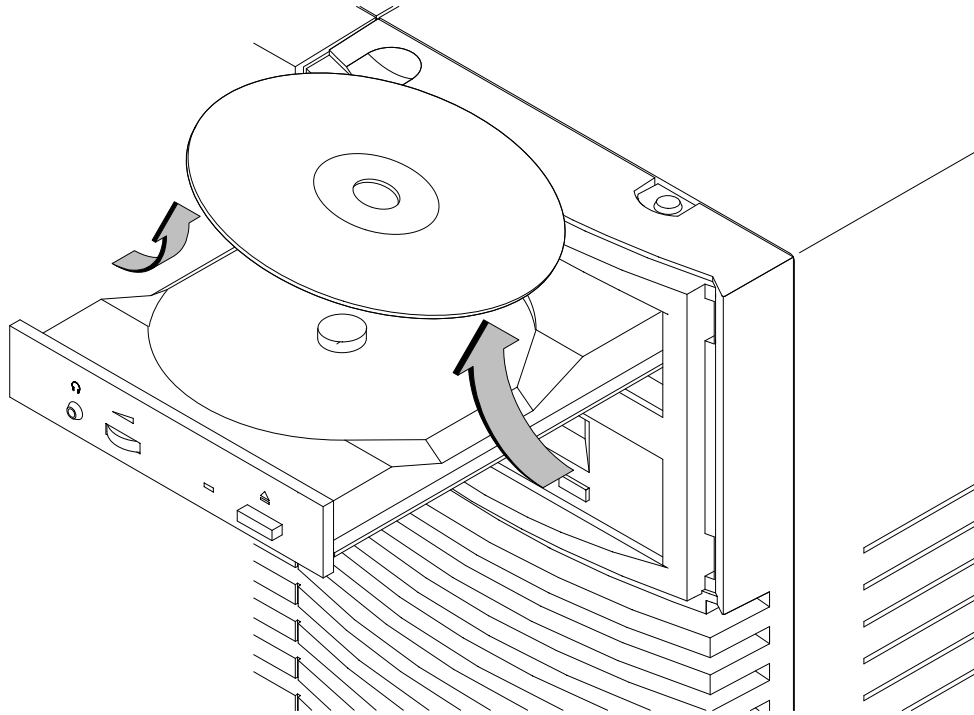

Figure 6-6. Removing the CD-ROM Disc From the Disc Tray
3. Grasp the disc by the edges and lift it out of the disc tray, as shown in Figure 6-6. Be careful to touch only the edges of the disc.